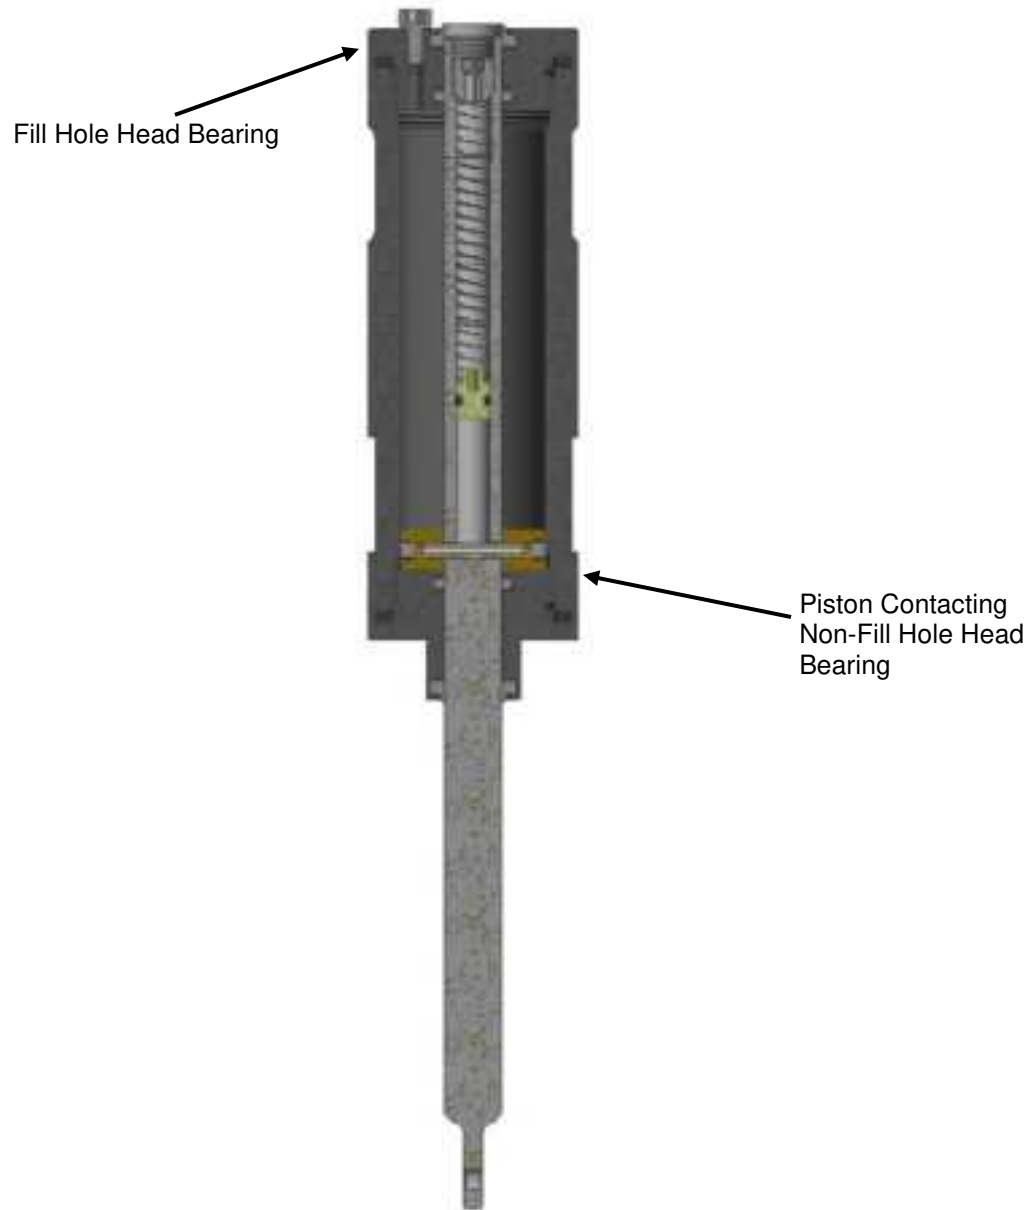

Figure 6: Filling Configuration
- 3) Position the shaft all the way to the end with the non-fill hole head bearing. Position the shimmy dampener so the barrel is vertical with the seal screw on the top of the assembly. See Figure 6 for Reference.